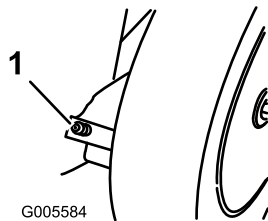

Figure 17
5. Wipe the grease fittings with a clean rag (Figure 17).